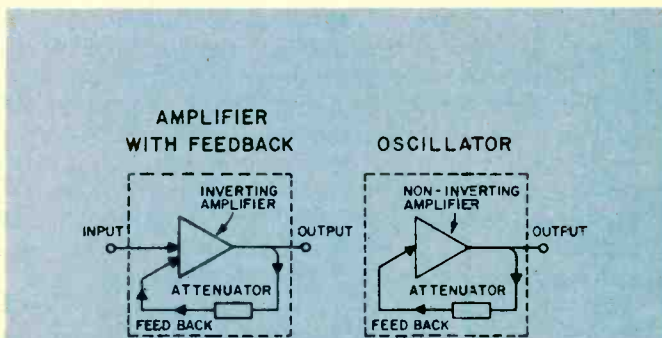
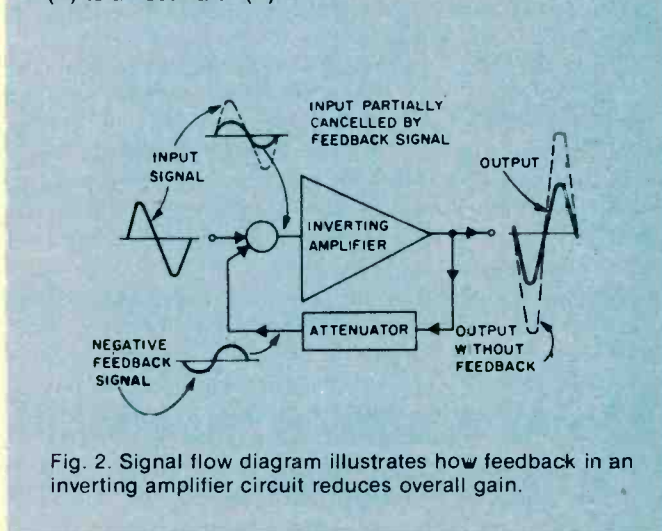
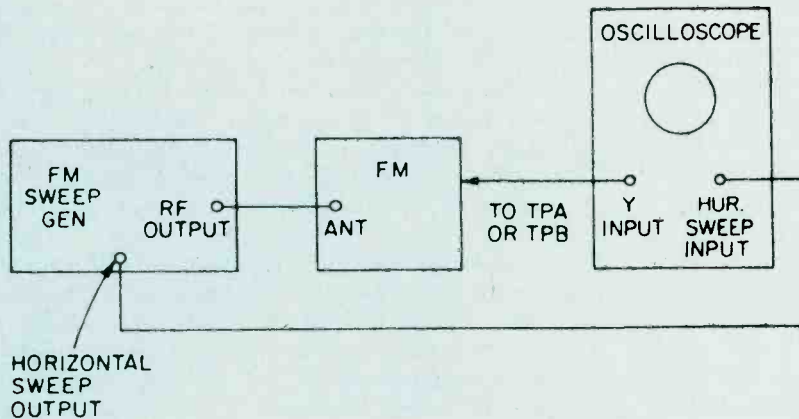

Fig. 1. Two block diagrams compare an inverting amplifier (A) to an oscillator (B).
Fig. 2. Signal flow diagram illustrates how feedback in an inverting amplifier circuit reduces overall gain.
Fig. 4. When using both a sweep generator and oscilloscope for aligning an FM set, they must be connected in the manner shown in the diagram on the right side.
regular full-wave rectified situation (see Fig. 2). This will deliver the 20 amperes required. In this circuit, the primary windings are connected in parallel, while the secondaries are connected in series.
Fig. 2. Here an op amp is hooked up to provide unity gain. The output voltage equals the input voltage due to the feedback of the non-inverted output of the op amp to the inverting input effectively reducing the gain of the stage to 1.
Setting Up. Breadboard the op amp circuit shown in Fig. 2. You can use perforated board and flea clips to assemble the circuit. Better still, use a solderless breadboard kit. Use only the 741 op amp for IC1. These are short-circuit proof and are internally frequency compensated to prevent oscillations. Switch S1 may be simulated by a clip lead.
• **Unity Gain Follower.** Simplest of the op amp circuits, the unity-gain follower shown in Fig. 2 has a direct connection from output to the inverting input. This provides one-hundred percent negative feedback. With switch S1 at position A, the + input is grounded and meter M1 indicates zero. By rule 3, the - input is at virtual ground. Therefore, V_{OUT} is also at virtual ground. With S1 set to position B, the meter now indicates the voltage of battery B1, near 1.5 volts. By rule 4, the 1.5 volt increase at the + input must be accompanied by a 1.5 volt increase at the - input. Hence, V_{OUT} must rise to 1.5 volts.
The resulting closed-loop gain, or AV_{CL} , is unity (one unit out for one unit in). However, the high AV_{OL} inside the IC itself is still present, enforcing close compliance with the several rules. As noted on Fig. 2, actual input and output resistances Z_{IN} and Z_o are much improved due to feedback. The resultant input resistance now equals Z_i times AV_{OL} or 400,000 megohms for the 741 op amp! The resultant output resistance now equals Z_{oi} divided by AV_{OL} , or .0035 ohms! Consequently, the unity gain
The fundamental block diagrams of an oscillator and an amplifier with feedback bear a strong resemblance to each other, as you can see from Fig. 1. From a block diagram viewpoint, both diagrams are *very* similar. Both contain some type of amplifying device, and both have part of their output signal fed back to their input. There are only two major differences between them:
The circuit action obtained from these two circuits is entirely different. In the amplifier with feedback, the output waveform is upside down with respect to the input, so when it is fed back to the amplifier input, it cancels a portion of the input waveform. The output is therefore less than it would be without feedback. See Fig. 2.
The basic advantage of this type of circuit is that the greatest part of the RF gain, and bandpass characteristic of the receiver, is provided by the IF stages, and is a constant for all received frequencies. Thus, the manufacturer of the receiver can precisely determine the sensitivity and selectivity of the receiver. Proper alignment ensures that the receiver performs exactly the way the manufacturer intended. Refer to Fig. 1, which is a simplified schematic diagram of the RF and IF sections of a typical modern day AM receiver.
In Fig. 1., simplified AM radio schematic, you will note a combination mixer-oscillator stage, and two stages of IF amplification. This circuit is typical of a minimum cost AM receiver which has a two gang tuning
Fig. 1. This circuit diagram illustrates a common AM radio configuration. Signals are picked up by the loopstick antenna and then fed to the base of transistor Q1, which is used as a combination local oscillator and mixer: signals are parallel to base.
In the circuit of Fig. 1, the received signals is picked up by the loopstick antenna and is fed to the base of Q1. This transistor stage is used as a combination local oscillator and mixer, and is actually a Hartly oscillator with the received signal being placed in series with the base drive of the oscillator. The frequency of oscillation is determined by C3, C4 and T1. At the same time C1, C2 and the loopstick antenna are tuned to the received signal frequency. The output of T2 contains several frequencies: the radio station frequency, the local oscillator frequency and two new frequencies equal to the sum and difference of the local oscillator and received frequency.
FM Circuitry. Fig. 2, is a simplified schematic of a typical FM receiver. In this diagram you will note the similarity with the AM receiver schematic of Fig. 1. This basic difference, aside from the higher operating frequency, is that the FM receiver employs an RF amplifier stage, Q1.
requires a solid signal in the IF amplifier, so that effective limiting takes place. Note also the requirement of a three gang variable capacitor instead of the two gang as appears in Fig. 1. The additional cost and size of this capacitor is one reason why most AM receivers have no RF amplifier stage.
In the case of FM reception, and especially Stereo Multiplex FM, good reception requires a receiver with at least 150 KHz bandwidth. It is the nature of FM to have significant sidebands on either side of the carrier frequency, as far away as 75 KHz. Such a wide bandwidth in the IF stages of an FM receiver cannot be attained by tuning each stage to the same frequency. What is done is to stagger tune each stage, so that the resultant overall response has the required bandwidth. Note that each IF transformer in Fig. 2 has separate tuning slugs for primary and secondary which permit stagger tuned alignment.
Fig. 2. While there are similarities between FM and AM circuitry, the most obvious difference shown in this FM circuit schematic is an RF amplifier stage to boost signals.
Once you have determined the proper frequency, set the generator at 455 KHz. or whatever the specified intermediate frequency may be. Connect the VOM across the voice coil of the receiver and adjust the IF transformers (T2, T3, and T4 in Fig. 1) for the maximum reading of the meter.
Some receivers may have highly selective front ends which make injection of the 10.7 MHz IF through the RF stages difficult. In these receivers you may couple the output of the signal generator to the input of the first IF amplifier stage through a 10-pf capacitor. This point is shown in Fig. 2, as test point C. Use only sufficient signal strength to achieve a usable display on the oscilloscope. Fig. 4, is a typical connection diagram of the receiver, generator and oscilloscope.